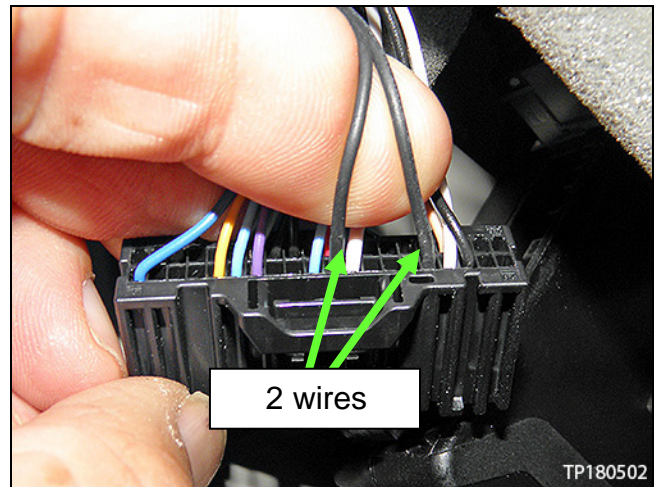

Figure 7
7. Using a terminal tool (J-48817-1, blade #07A), carefully remove the two existing wires shown in Figure 7.